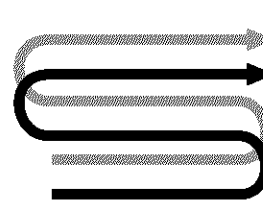
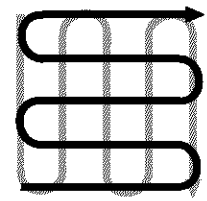

Fig. 4-6
Fig. 4-7
• When preparing a seedbed, go over the same path twice in the first row, then overlap one-half the tiller width on the rest of the passes (see Fig. 4-6). When finished in one direction, make a second pass at a right angle, as shown in Fig. 4-7. Overlap each pass for best results (in very hard ground, it may take three or four passes to thoroughly pulverize the soil.)